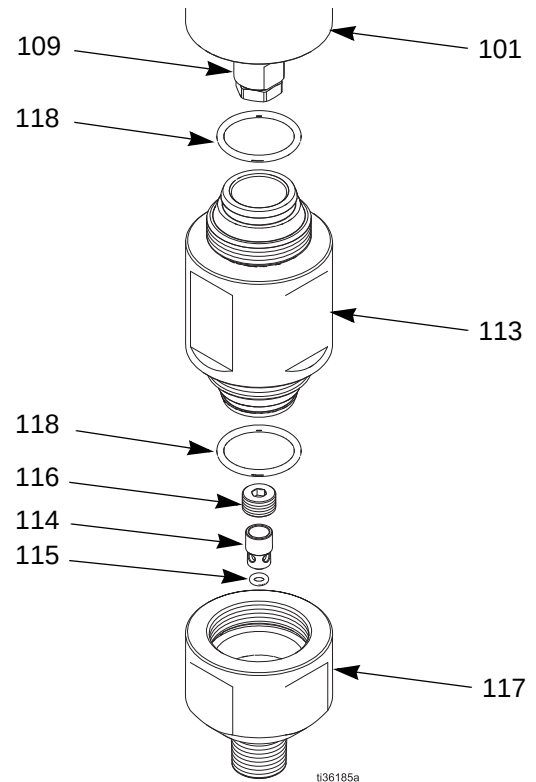

FIG. 6
15. Apply petroleum-based lubricant to the fluid plunger (109) and install into the fluid cylinder (101).
16. Inspect and replace the cylinder o-ring (115), as required, and insert the cylinder poppet (114) into the cylinder cap (117) as shown in FIG. 6. Install the check retainer (116). Torque to 10 ft-lb (14 N•m).
17. Install the cylinder cap (117) onto the lower fluid cylinder (113). Torque to 100 ft-lbs (136 N•m).
18. Install the packing nut shim (105) and torque the packing nut (106) to 20 ft-lbs (27 N•m).